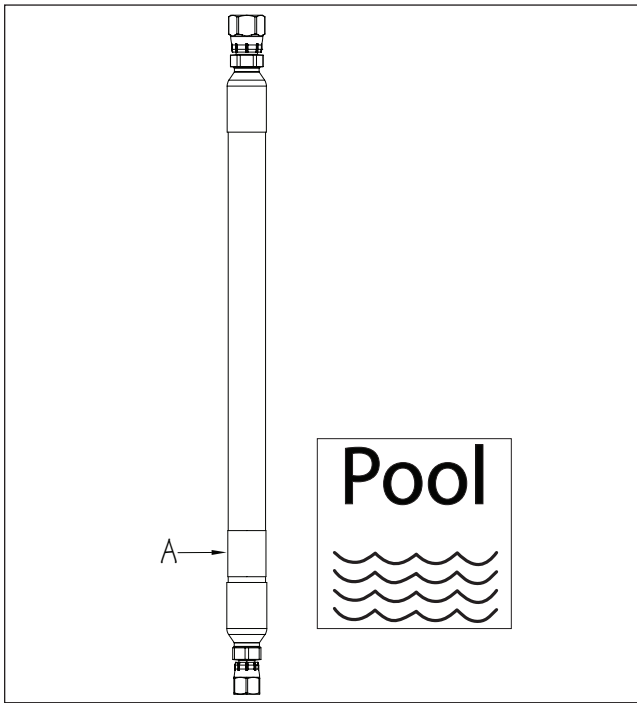

Fig. 10
Each Hydraulic Run Hose has a white label (A) that reads "Pool" on the end that attaches to the Fastlane Tread in the pool (Fig. 10).